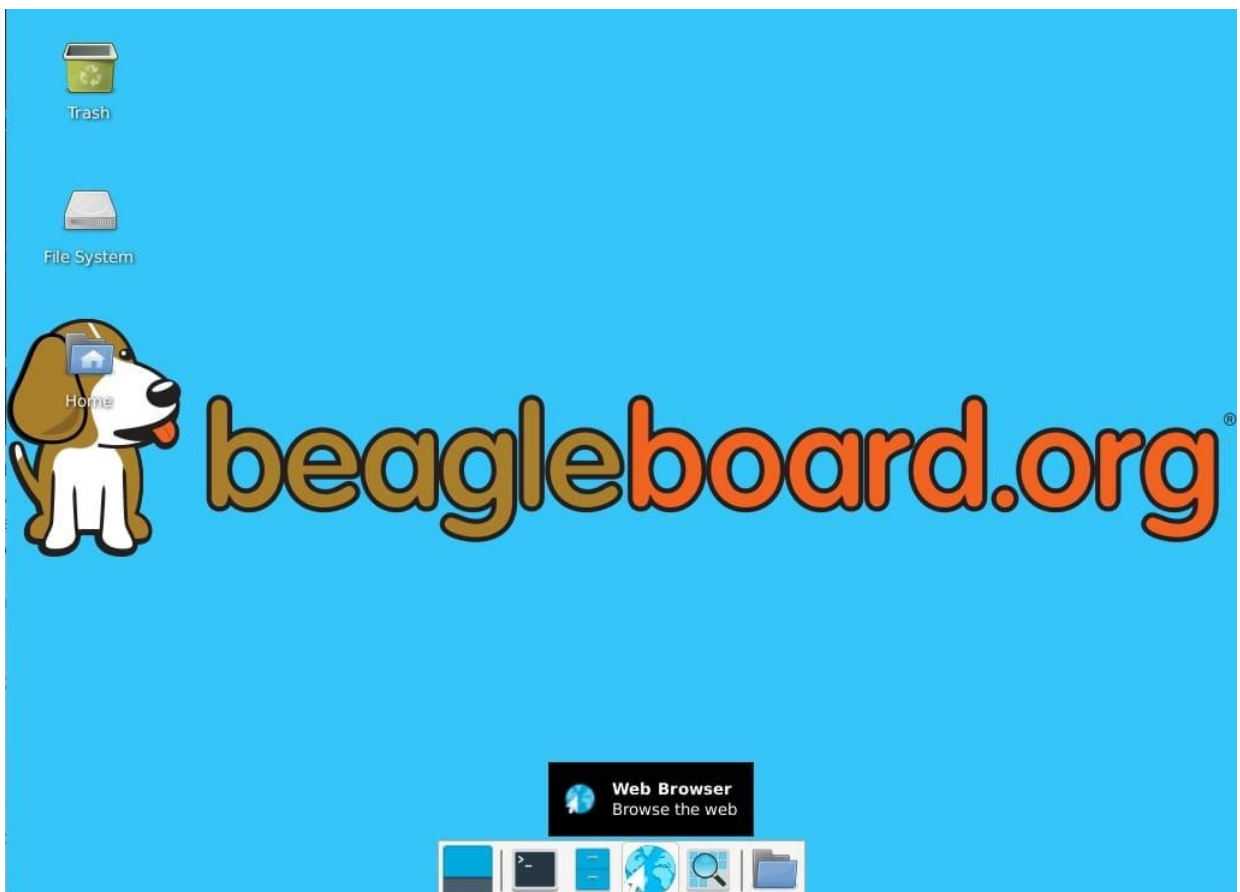

Figure 16. BeagleBone XFCE Desktop Screen
- After a minute or two the desktop will appear. It should be similar to the one shown in Figure 16. HOWEVER, it will change from one release to the next, so do not expect your system to look exactly like the one in the figure, but it will be very similar.
- And at this point you are ready to go! Figure 16 shows the desktop after booting.